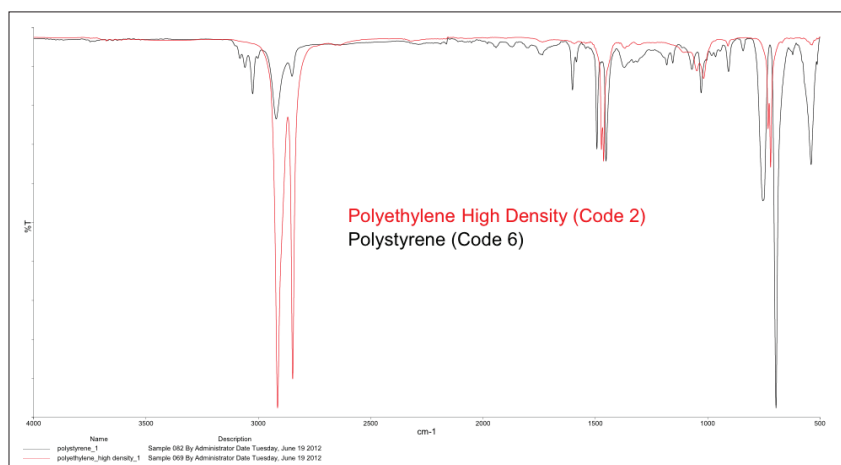

Figure 1. Overlay of PE and PS spectra in the FT-IR. FT-IR is a fast and accurate way to detect chemical differences in polymers.
Polymer recycling is a growing industry, as many bottles and containers that were once destined for landfills are now being recycled into new products. Because polymers tend to be mutually immiscible, it is important that something identified as polyethylene terephthalate (PET) or polyethylene (PE) really be that polymer and not polycarbonate (PC) or polystyrene (PS). The chemical identification of the polymer can be done easily using the Spectrum Two™ Fourier Transform Infrared (FT-IR) and Universal Attenuated Total Reflectance (UATR) accessory as shown in Figure 1.